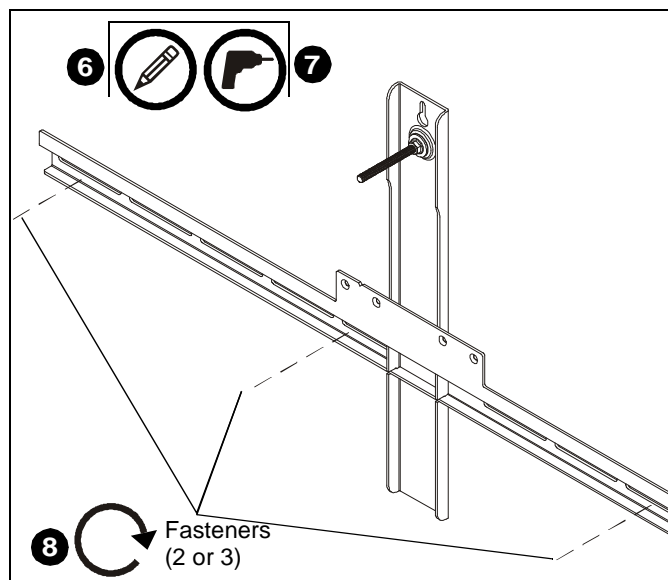

Figure 4
- Determine location of studs behind drywall, and mark a **minimum** of two locations for wall bracket attachment over studs. (See Figure 4)
- Drill one pilot hole (see Table 1 for size) at each location marked in Step 5 (See Figure 4) and follow fastener information (appropriate for wall type) located in Table 1.
- Fasten wall bracket assembly to wall using fasteners appropriate to wall type (See Table 1). (See Figure 4)